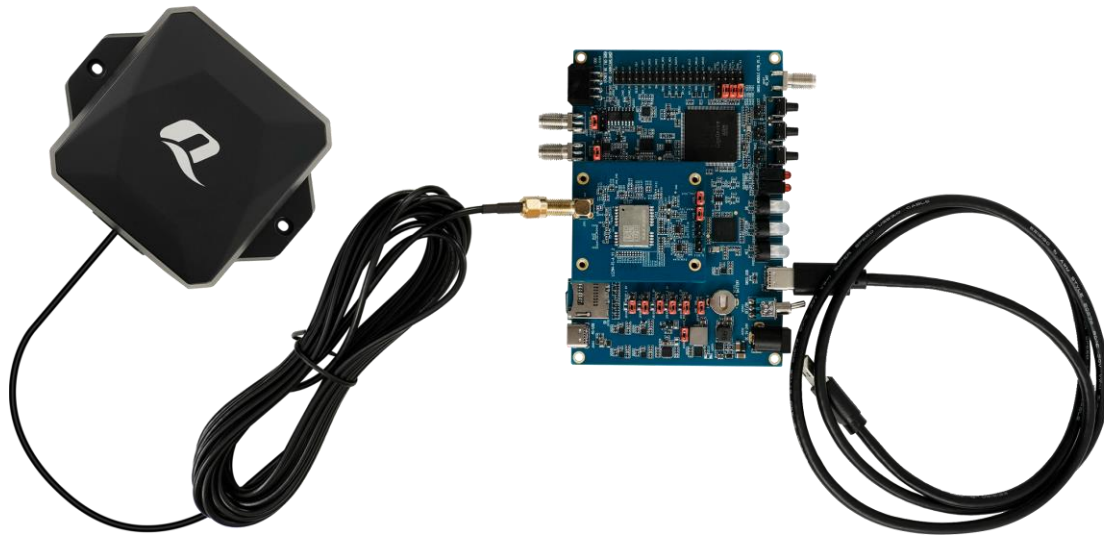

Figure 2: GNSS Module TE-A and Kit Components Mounted on EVB (Without 4G Module TE-A)
To test the RTK performance of a high precision GNSS module, you can connect the EVB kit in two ways. Before using the EVB, ensure that the (red) jumper caps are connected correctly as shown Figure 2: GNSS Module TE-A and Kit Components Mounted on EVB \(Without 4G Module TE-A\) or Figure 3: GNSS Module TE-A and Kit Components Mounted on EVB \(Top View\).
- Connect the EVB to the PC and use the QGNSS tool to achieve RTK positioning. The connection between the EVB kit components and GNSS module TE-A is shown in Figure 2: GNSS Module TE-A and Kit Components Mounted on EVB \(Without 4G Module TE-A\).